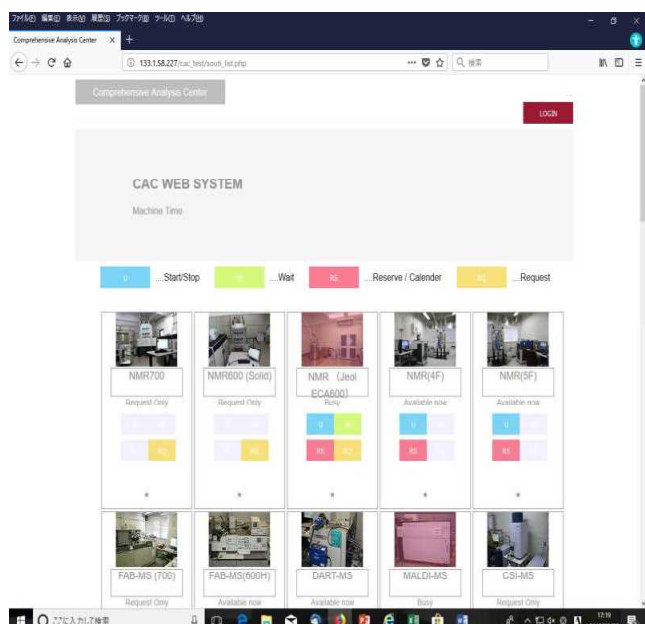

Figure 3
- 2)Choose the desired instrument shown in a screen (Figure 3).